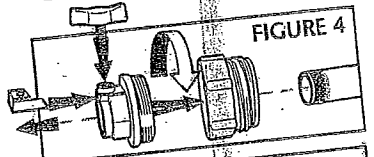

FIGURE 4
11. Slip the metal tube guard on the locking collar and screw in the wing nut with the black plastic handle through the hole in the metal tube guard and through the threaded hole on the side of the locking collar. (Figure 4)
12. Install the locking collar into the bung adapter and slip this assembly (bung adapter first) onto the suction tube assembly. (Figure 4)